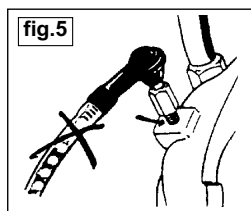

fig.5
- 3.08 Continue to bleed the system and top up the reservoir until there are no air bubbles visible in the clear tube. ( See fig.5 )